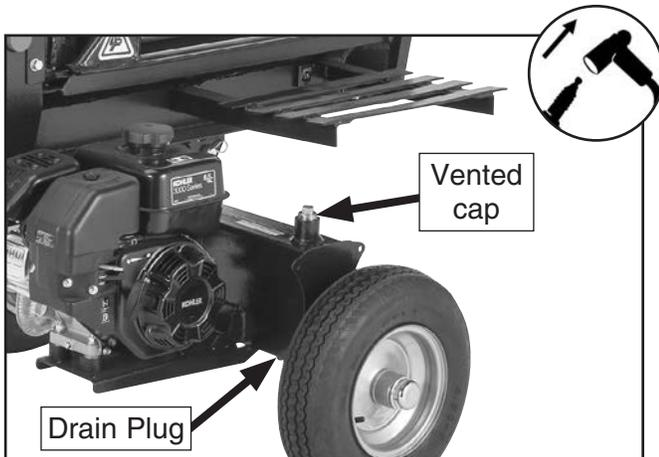

Figure 48. Vented cap location.
3. Remove vented cap (see **Figure 48**) and wipe dipstick with clean rag.
- If fluid level is *above* middle of dipstick, place drain pan under drain plug (see **Figure 48**), and carefully remove plug from bottom of hydraulic tank. Allow fluid to drain to bring it to correct level. Re-install drain plug when finished.
2. Remove vented cap (see **Figure 48**) and fill hydraulic tank with 3.5 gallons of hydraulic fluid or amount needed to fill tank to middle of dipstick.